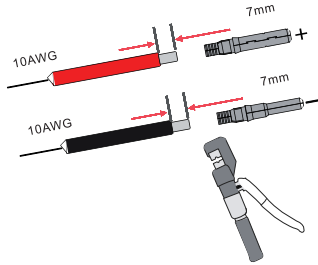

Figure 4.1-2 Crimp the terminal to the wire
**Step 2.** Crimping metal terminals with crimping pliers, as shown in Figure 4.1-2.